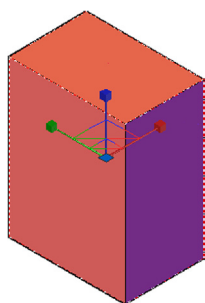

FIGURE 22.18
Step 3. You also see a scaling gizmo appear, which snaps to whatever base point you select (Figure 22.18).